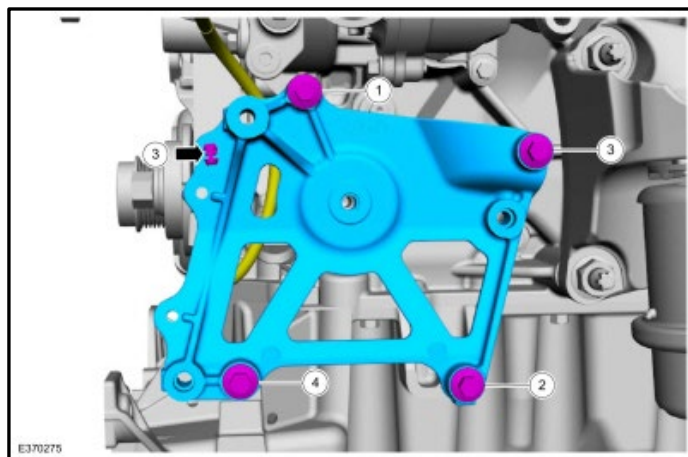

Figure 29
X. Install the A/C compressor bracket and the bolts. Figure 29